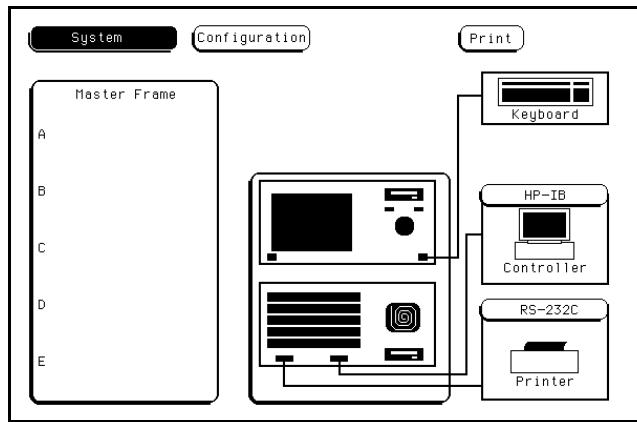

Figure 2-8. System Configuration Menu
1. With the operating system disk in one of the disk drives, turn on the instrument to obtain the System Configuration menu. See figure 2-8.